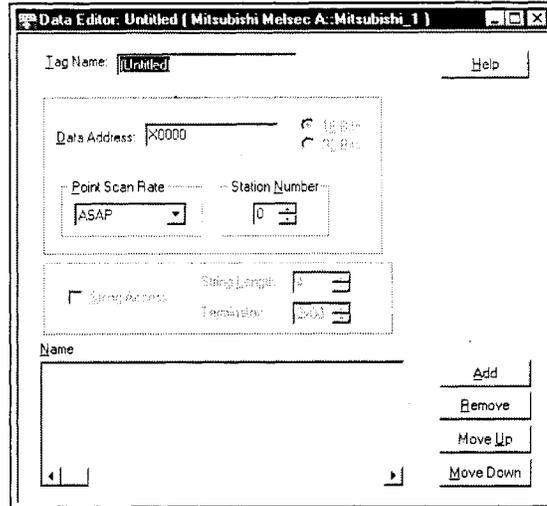

Figure 6. Mitsubishi Melsec A Data Point Configuration Form
2. Double-click on the driver name for which you want to configure tags. The data point configuration form opens, as shown in Figure 6.